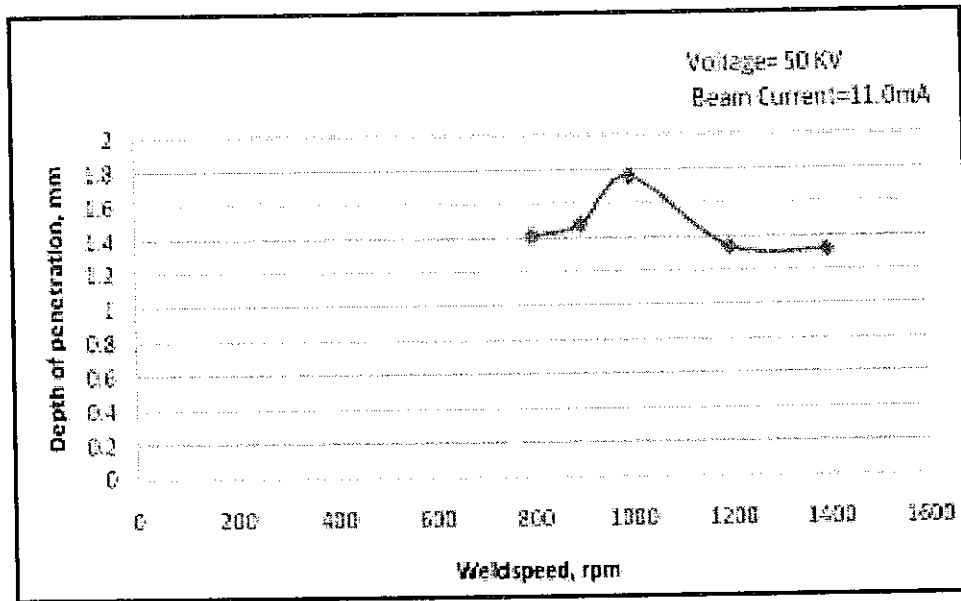

Figure 2: Effect of weld speed on depth of penetration
- (a) Analyze the result based on Figure 2. (9 marks)